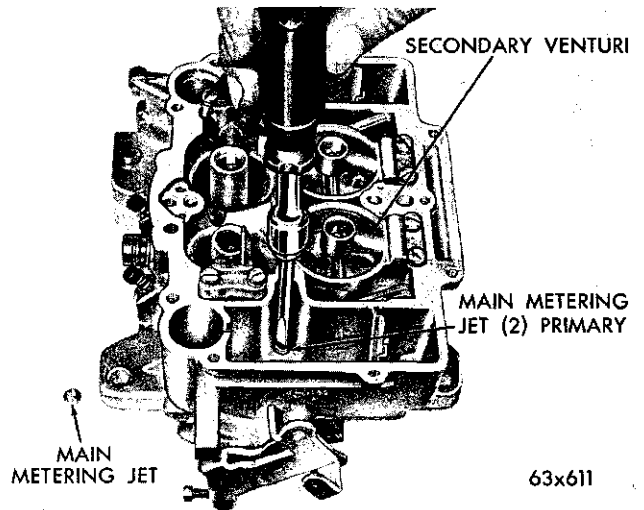

Fig. 7—Removing the Main Metering Jets
(2) Using Tool T-109-58, remove the main metering jets from the primary and secondary side, as shown in Figure 7. These jets are not interchangeable. (No. 120-159 primary; and No. 120-158 secondary.)
(9) Install the primary and secondary main metering jets in the main body. Tighten securely, using Tool T109-58. (Refer to Fig. 7.) Tighten securely.